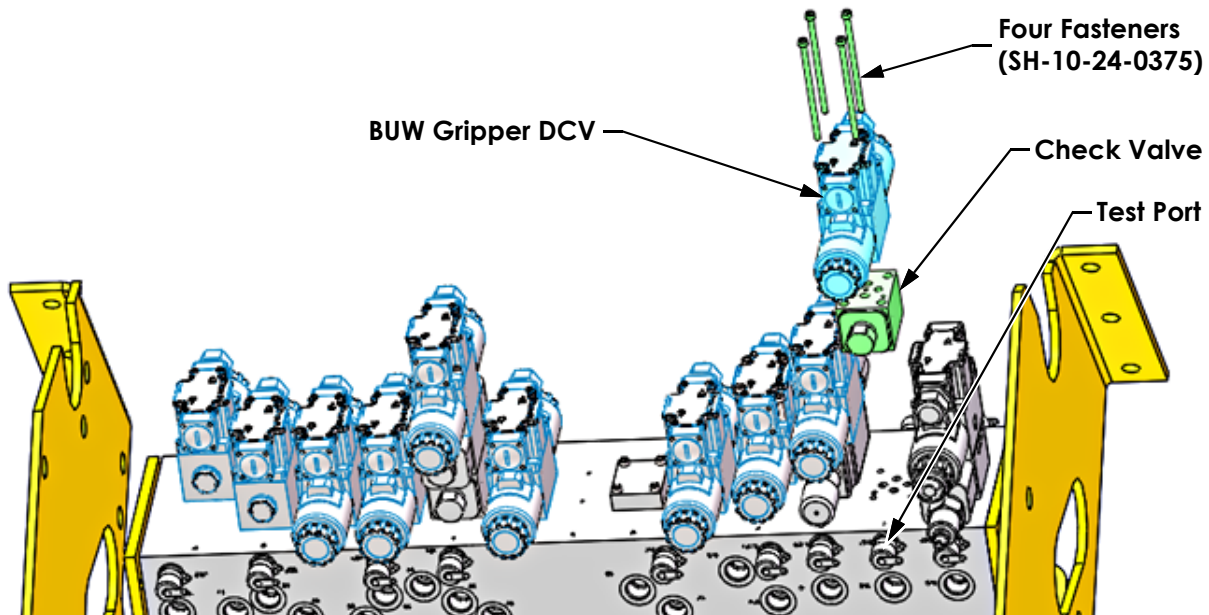

Figure 6: Installing check valve
- Using the fasteners from the kit, install the check valve assembly (P/N: H07-1010-030) between the BUW gripper DCV and the hydraulic manifold as shown in Figure 6. Torque the fasteners to 6.5 ft-lbs using Loctite® 242.
Check valve knob must be oriented toward the hydraulic manifold test port as shown in Figure 6.